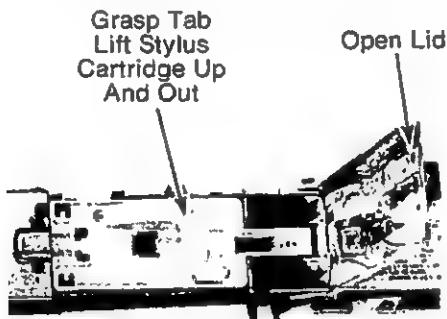

Fig. 2-1. — Stylus Cartridge Removal Access
- 2. With pickup arm in its outermost position (to the rear as far as possible) — open stylus cartridge retaining lid and remove stylus cartridge by lifting it straight up and out of pickup arm assembly (Fig. 2-1). Carefully handle cartridge by grasping sides! **Do Not** touch stylus.